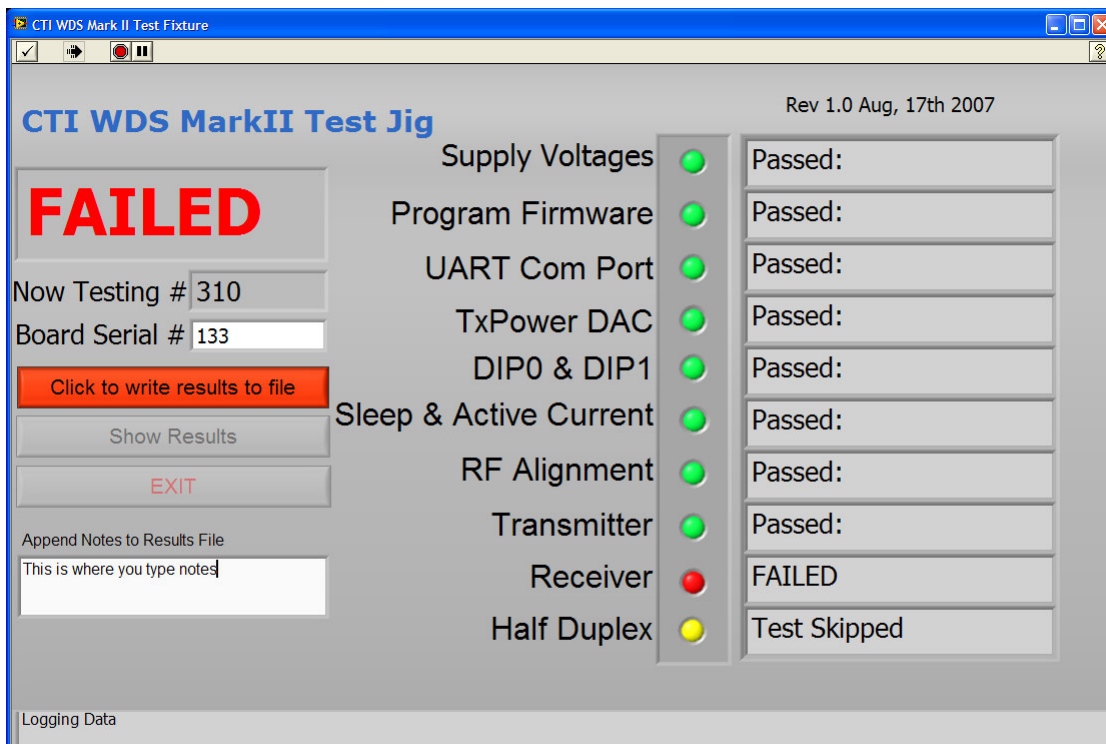

Figure 5-9 Screenshot of a failed board result.
- g) the DUT has one more transmitter test to complete which is to verify the transmission power flatness over the full band of 2406MHz-2477MHz. The dialog in figure 5-9 is presented to notify the user to configure the spectrum analyzer to facilitate this test. Once the user has configured the spectrum analyzer the user presses the Continue button. The DUT will then transmit at channel 2406 MHz, 2441 MHz and 2476MHz for 1 second intervals. The dialog box then makes two buttons (“PASS”, “FAIL”) visible. The user then need to measure the flatness over the passband and ensure that there is less than +/-2db deviation from the center channel and that the maximum transmit power on each band is less than the allowable Maximum for ETSI or FCC. The user then passes or fails the DUT by pressing the appropriate button.
Should the board fail the testing procedure; the testing program user interface will appear as in Figure 5-9. At this point the user should enter any notes in the “Append Notes to Results File” entry, enter the board serial number from the issued sticker into the “Board Serial #” entry, and then press the “Click to write results to file” button.